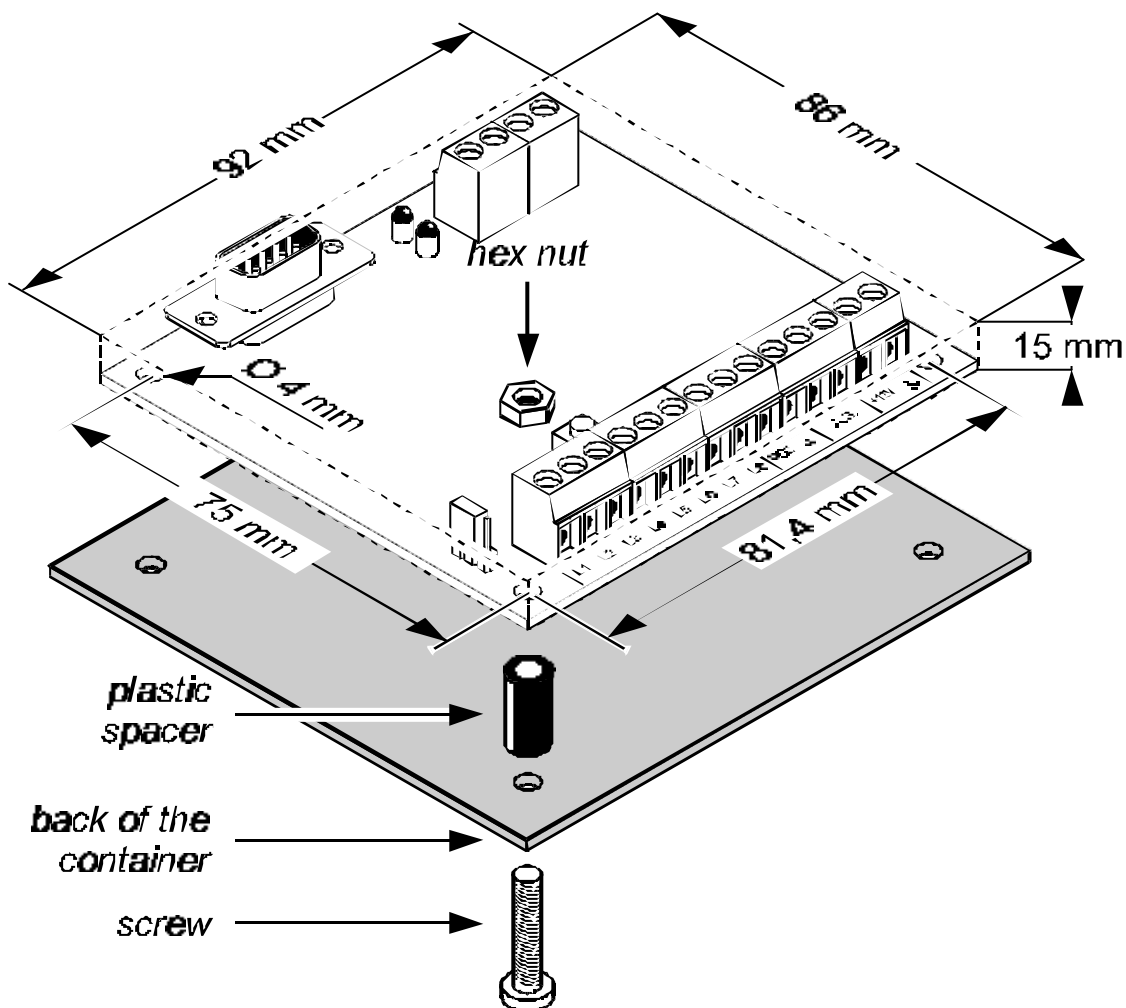

Figure 4
In order to fit the MD-COM use the 4 holes indicated in figure 4, of which both the diameter and depth of these are given.
- + Do not fit the MD-COM in direct contact with the back of the container, this is in order to avoid accidental short-circuits, use plastic spacers as shown in figure 4.